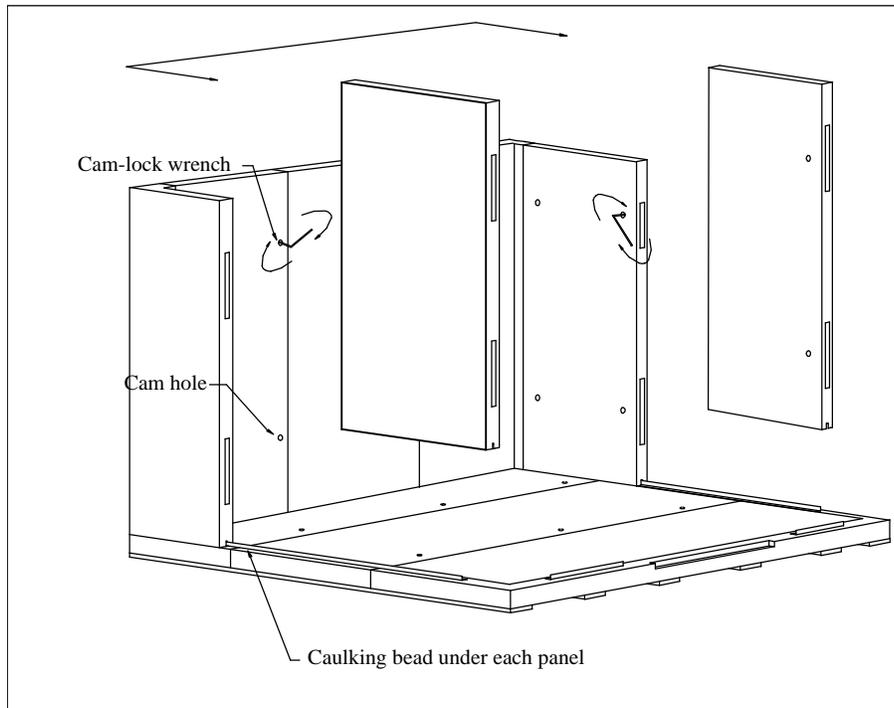

Figure 6 - Installing The Wall Panels
3. Begin installing the wall panels starting with a corner panel and working in an outwardly direction (see figure 6).